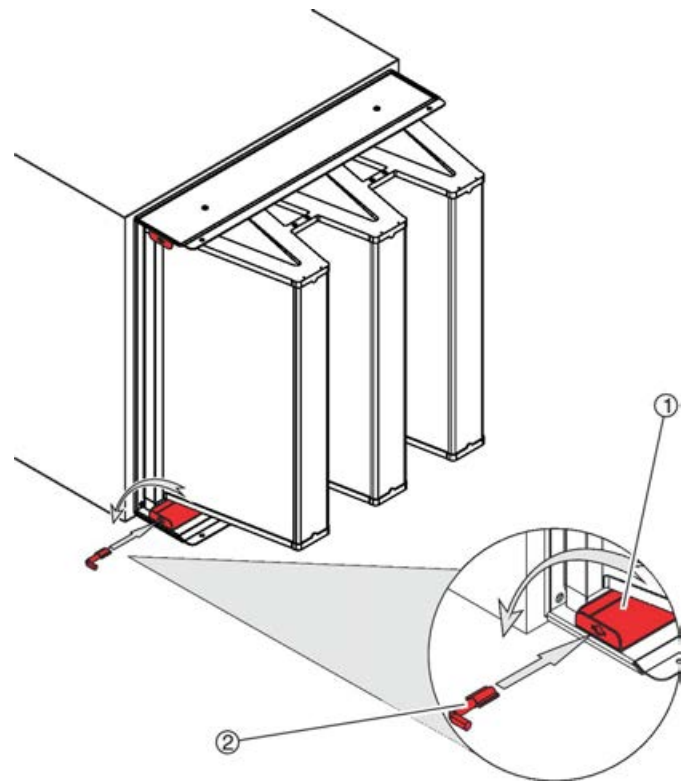

Fig. 23: Inserting the special key
3. ▶ Insert the special key (Fig. 23 /2) into the recess of each clamping rail (Fig. 23 /1) and turn it anti-clockwise by 90°.